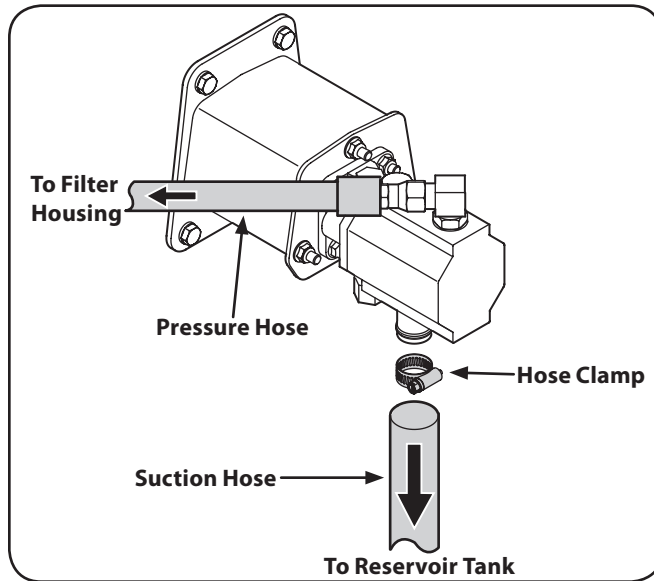

Figure 3-8
3. Attach the end of the suction hose to the fitting on the bottom of the pump. See Fig. 3-8.
3. Secure the pressure hose to the pump and cut the zip tie securing hose guard. See Fig. 3-8.